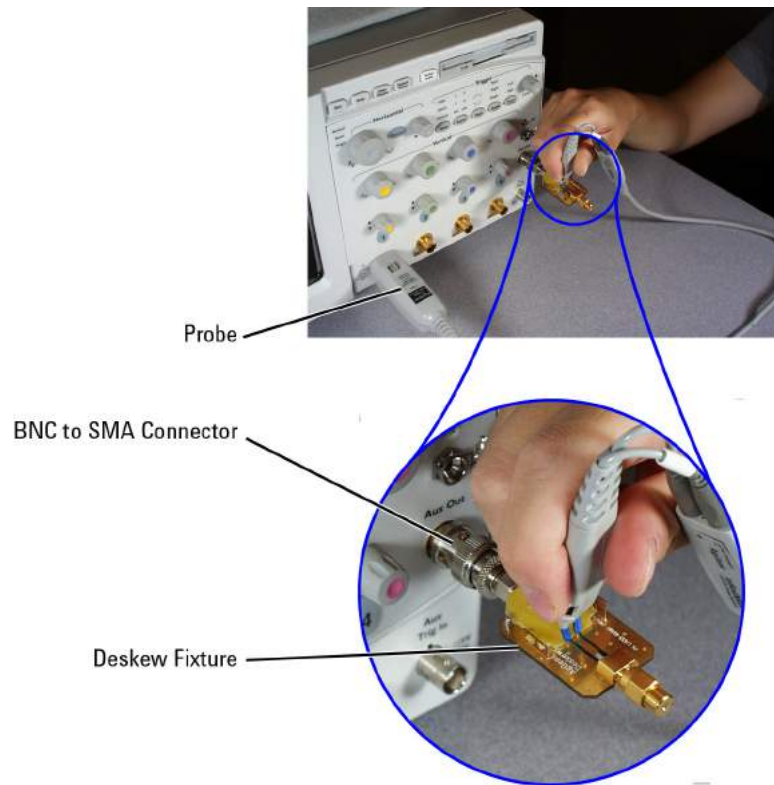

Figure 111 Placing the Probe on the Fixture
- 1 As shown in **Figure 111** on page 132, connect BNC (male) to SMA (male) adapter to the deskew fixture on the connector closest to the yellow pincher.